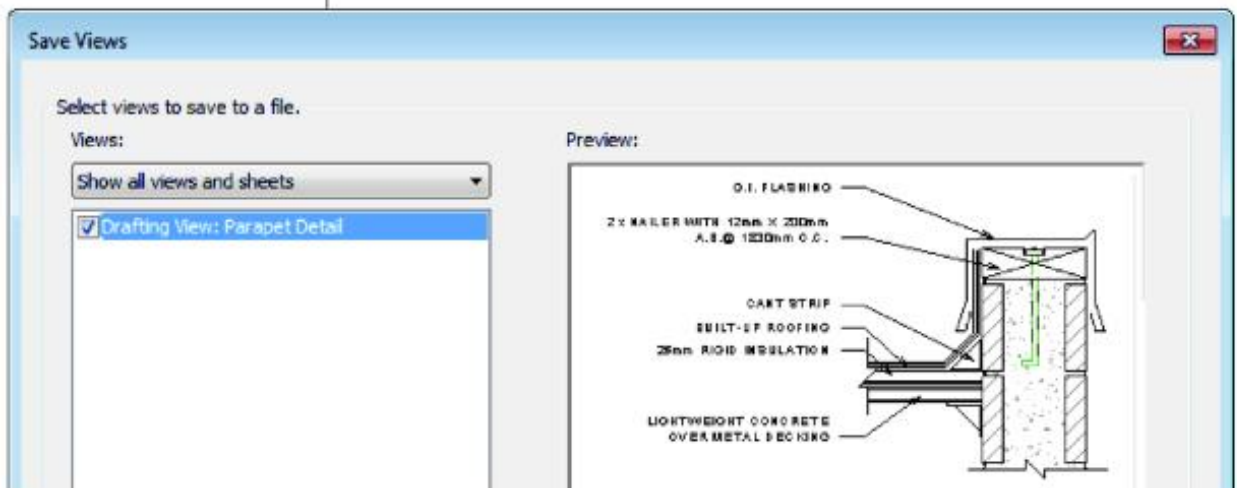

Figure 16–55
2. In the Save Views dialog box, verify that **Drafting View: Parapet Detail** is selected, as shown in Figure 16–55 and click **OK**.